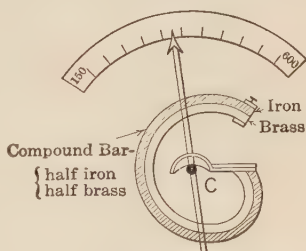

FIG. 29. — Dial thermometer on oven door.
26. Oven thermometers. Two types of thermometers are used on oven doors to indicate the temperature within the oven. One of these is the mercury thermometer; the other makes use of the expansion of a metal, or more commonly, of two metals joined in one bar. In the dial thermometer of this type, Fig. 29, a curved bar is made by fastening at short intervals a strip of brass to a strip of iron. The greater expansion of the brass, which is on the inside, makes the bar straighten a little. As it does so, the cord "C," which makes a loop around the drum attached to the pointer, causes the pointer to move along the scale and indicate the temperature.